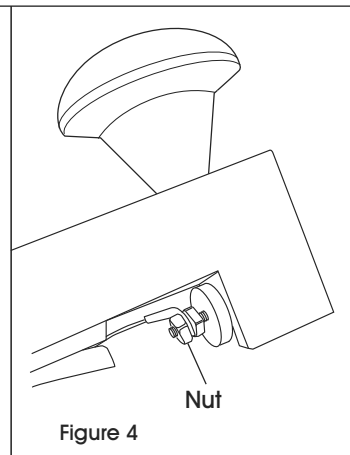

Figure 4
3. Remove the first nut on the bolt that runs through the insulator to release the upper end of the sealing wire. (See Figure 4)